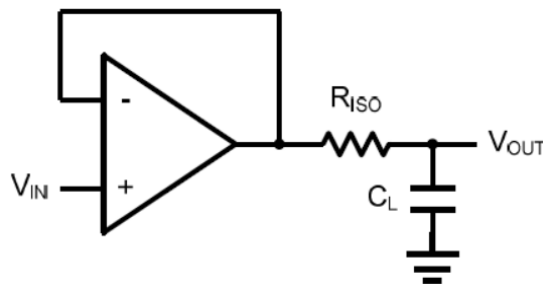
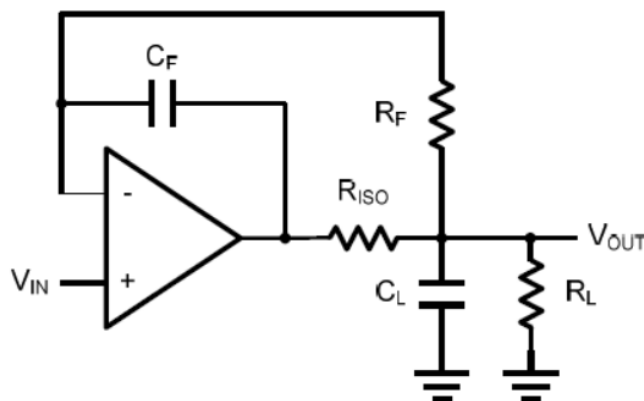

Figure 1. Indirectly Driving a Capacitive Load Using Isolation Resistor
Figure 2. Indirectly Driving a Capacitive Load with DC Accuracy
The AO324V is optimized for bandwidth and speed, not for driving capacitive loads. Output capacitance will create a pole in the amplifier's feedback path, leading to excessive peaking and potential oscillation. If dealing with load capacitance is a requirement of the application, the two strategies to consider are (1) using a small resistor in series with the amplifier's output and the load capacitance and (2) reducing the bandwidth of the amplifier's feedback loop by increasing the overall noise gain. Figure 1. shows a unity gain follower using the series resistor strategy. The resistor isolates the output from the capacitance and, more importantly, creates a zero in the feedback path that compensates for the pole created by the output capacitance.
The circuit in Figure 2 is an improvement to the one in Figure 1.  $R_F$  provides the DC accuracy by feed-forward the  $V_{IN}$  to  $R_L$ .  $C_F$  and  $R_{ISO}$  serve to counteract the loss of phase margin by feeding the high frequency component of the output signal back to the amplifier's inverting input, thereby preserving the phase margin in the overall feedback loop. Capacitive drive can be increased by increasing the value of  $C_F$ . This in turn will slow down the pulse response.